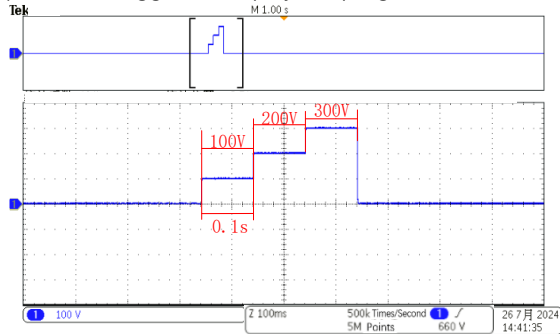

Figure 179 Step Programming Waveform Example First Figure
4) Click 'Trigger' to display the programmed waveform on the oscilloscope, see Figure 179.